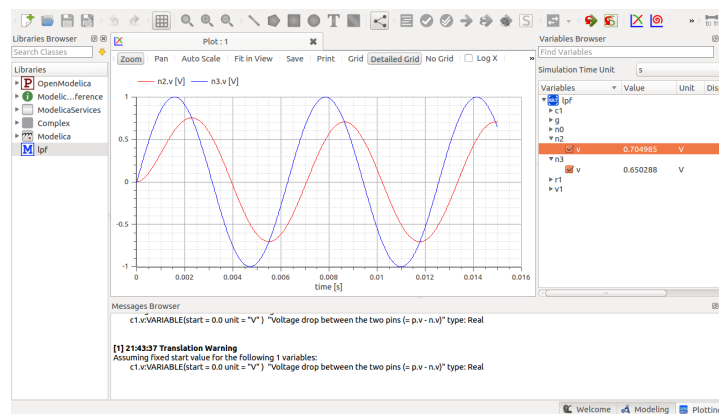

Figure 10.7: OpenModelica: Simulation
7. A plotting window opens. Click on the node at the right to display the waveform. The window is shown in Fig. 10.7.